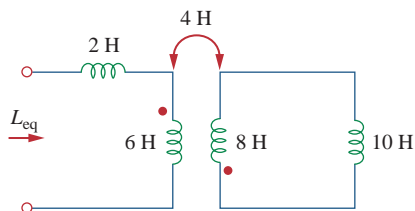

Figure 13.81
13.12 Determine the equivalent L_{eq} in the circuit of Fig. 13.81.